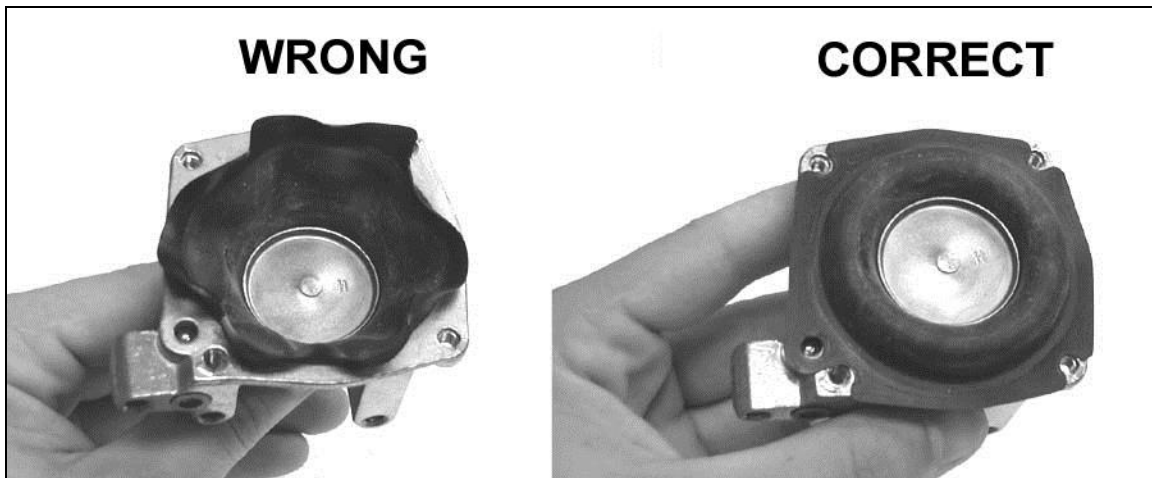

Figure 11
**TIP:** To make reassembling the diaphragm easier, extend the diaphragm into the housing and form the diaphragm into a "mushroom" shape (Figure 11). Then position the diaphragm over the bolt holes and vacuum port. Hold the diaphragm in that position with your fingers while inserting the spring, cover, and bolts to avoid disturbing the position of the diaphragm.